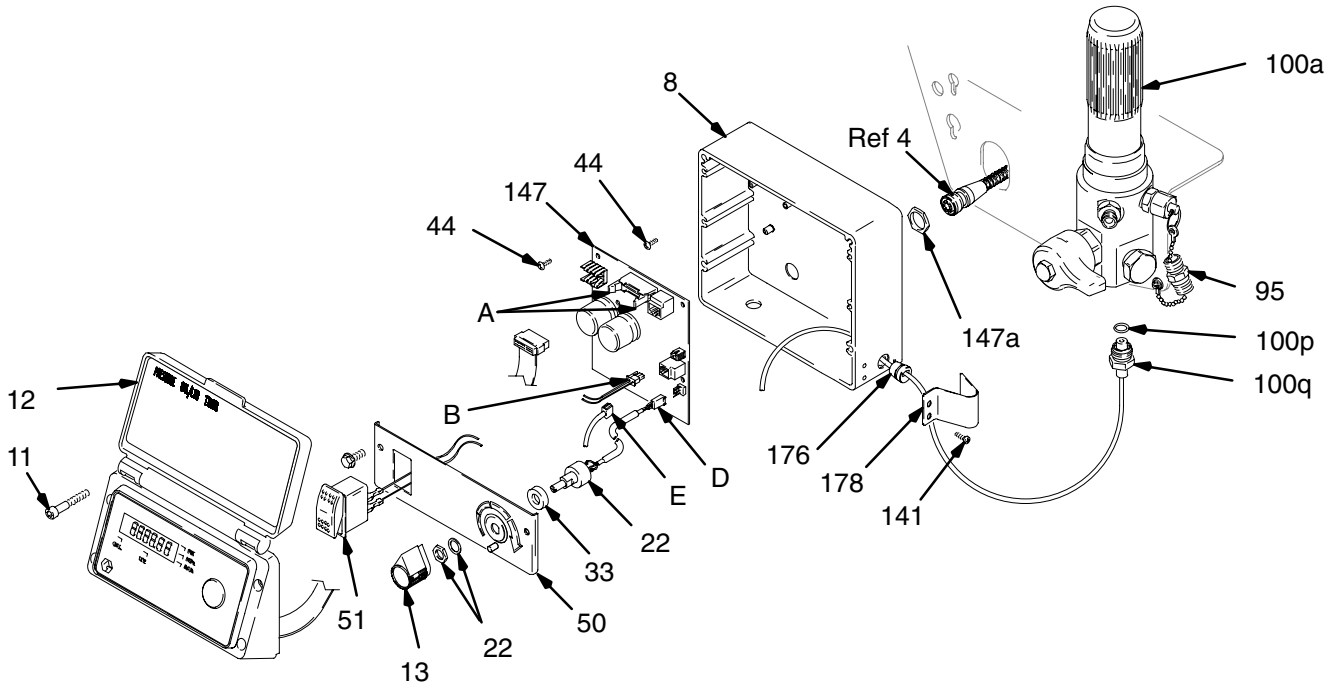

Fig. 10
2. Fig. 10. Remove four screws (11) and display/cover (12).
3. Pull display connector wings (A) open on PC board and pull display connector out.
4. Disconnect ON/OFF switch connector (B) from PC board.
5. Press in on two retaining tabs on each side of ON/OFF switch (51) and remove switch.
2. Fig. 10. Remove four screws (11) and display/cover (12). Pull display connector wings open on PC board and pull display connector out.
- Lead (D) from potentiometer.
- Lead (E) from transducer.
- Remove ON/OFF switch (51) at connector (A).
4. Fig. 10. Remove six screws (44) from control board (147) and green ground wire.
5. Remove connector (Ref 4) at backside of pressure control. Remove jam nut (147a) and control board (147).
1. Fig. 10. Install control board (147) and jam nut (147a). Install connector (Ref 4) at backside of pressure control.
2. Install green ground wire and control board (147) with six screws (44).
- Connect ON/OFF switch (51) connector (A).
- Lead (E) to transducer.
- Lead (D) to potentiometer.
4. Fig. 10. Push display connector into PC board close display connector wings on PC board. Install display/cover (12) with four screws (11).
3. Disconnect lead (E) from control board (147).
4. Remove two screws (141) and transducer guard (178) from control housing (8). Pull transducer connector through rubber grommet (176).
1. Fig. 10. Install o-ring (100p) and pressure control transducer (100q) in filter housing (100e). Torque to 30–36 ft-lb.
2. Install transducer connector and rubber grommet (176) in control housing (8). Install transducer guard (178) on control housing with two screws (141).
3. Connect lead (E) to control board (147).
4. Install display/cover (12) with four screws (11).
3. Disconnect lead (D) from control board (147).
4. Loosen set screws on potentiometer knob (13) and remove knob, shaft nut, lockwasher (22) and pressure adjust potentiometer (22).
5. Remove seal (78) from potentiometer (22).
1. Install seal (33) on potentiometer (22).
2. Fig. 10. Install pressure adjust potentiometer (22), shaft nut, lockwasher (22) and potentiometer knob (13).
- a. Turn potentiometer shaft (22) clockwise to internal stop. Assemble potentiometer knob (13) to strike pin on plate (50).
3. Connect lead (D) to control board (147).